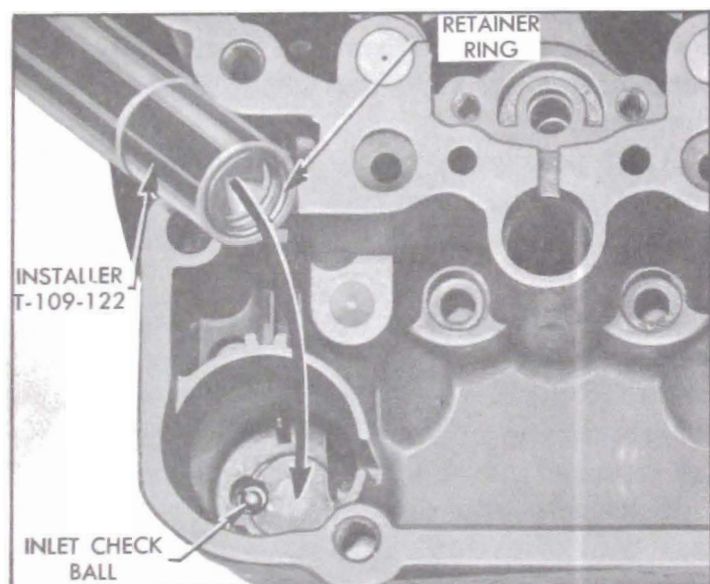

Figure 3-35—Installing Inlet Check Ball Retainer
4. Place a new pump inlet check ball in inlet hole. Place ball retainer in small end of sleeve part of Installer T 109-122. Then insert retainer and tool in recess in bottom of pump cylinder and tap tool sharply to seat retainer. See figure 3-35.